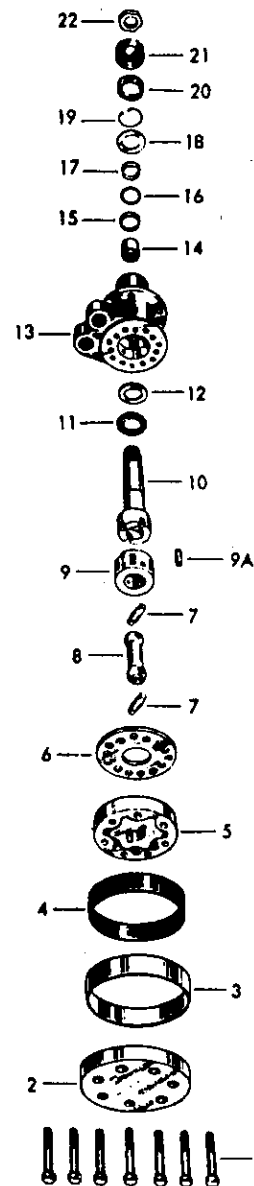
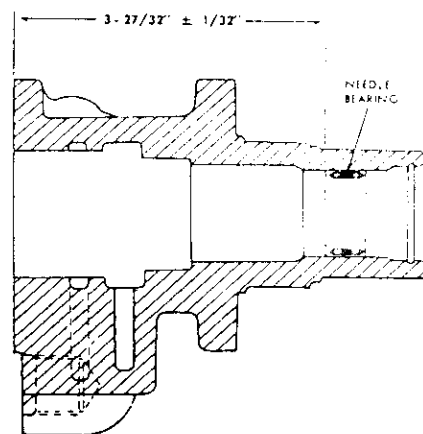

Fig. 21—Exploded view of power steering hand pump assembly.
Fig. 23—When renewing needle bearing in pump body, install same to dimension shown.
31. OVERHAUL MANUAL (HAND) PUMP. Remove the manual pump as outlined in paragraph 30. Clear fluid from unit by rotating steering wheel (input) shaft back and forth several times. Place unit in a soft jawed vise with end plate on top side, then remove end plate retaining cap screws and lift off end plate (2—Fig. 21).
When reassembling, use all new seals and back-up washers. All parts, except those noted below, are installed dry. Reassemble as follows: If needle bearing (14—Fig. 21) was removed, lubricate with IH Hy-Tran fluid, install from pumping element end of body and press bearing into bore until inside end measures 3-13/16 to 3-7/8 inches from pumping element end of body as shown in Fig. 23. Lubricate thrust bearing assembly with IH Hy-Tran fluid and install assembly on input shaft with race on top side. Install input shaft and bearing assembly in body and check for free rotation. Install a link pin in one end of the drive link, then install drive link in input shaft by engaging the flats